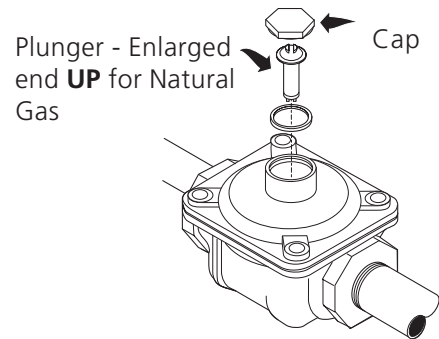

Figure 9
2. Convert the Pressure Regulator from LP Gas to NATURAL Gas (see figure 9)